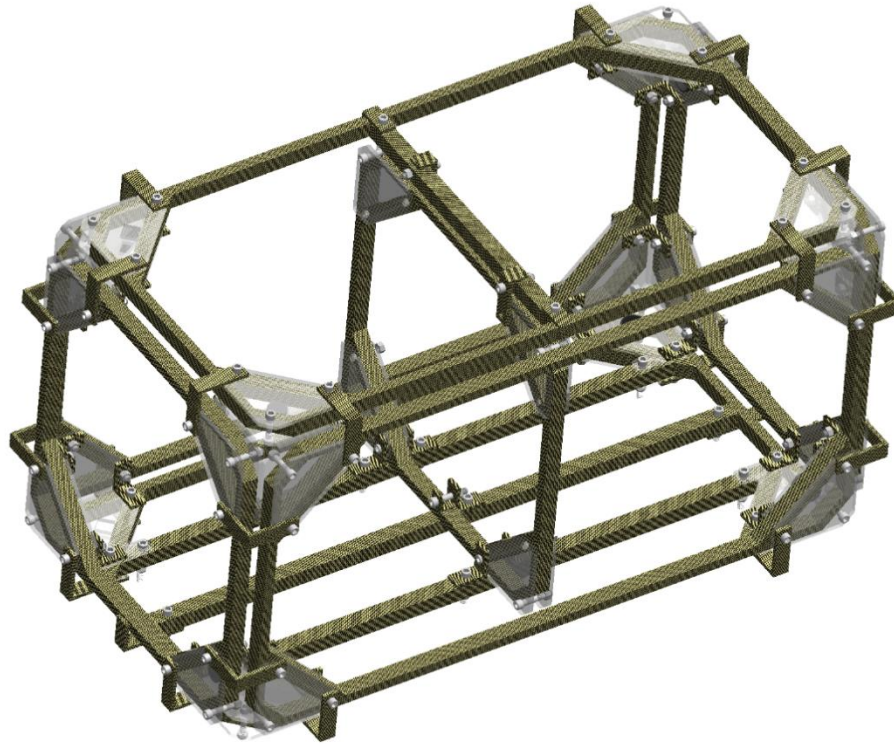

Figure 1.16
19. Epoxy the Middle 1x1 Angle (PN THOA006) to the Middle Coil (PN ASMB003) as shown in Figure 1.16. **DO NOT epoxy the Middle 1x1 Angle to the Inner Angle Bracket (THOA002) bolted to the Cube Support Beam (THCU002).** Use a 2" 3/8-16 bolt (PN OUTS002), and a 3/8-16 nut (PN OUTS004) to ensure that the Middle 1x1 Angle is aligned with the Inner Angle Bracket.